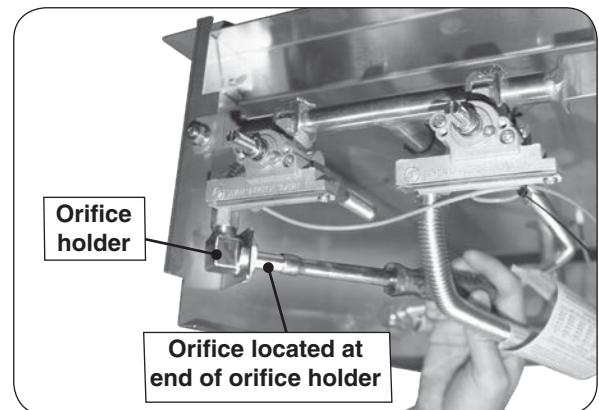

Fig. 27-1 Orifice location
4. Using a 3/8" socket nut driver, remove the orifice from the orifice holder (see Fig. 27-1) and check the number stamped on the orifice face.